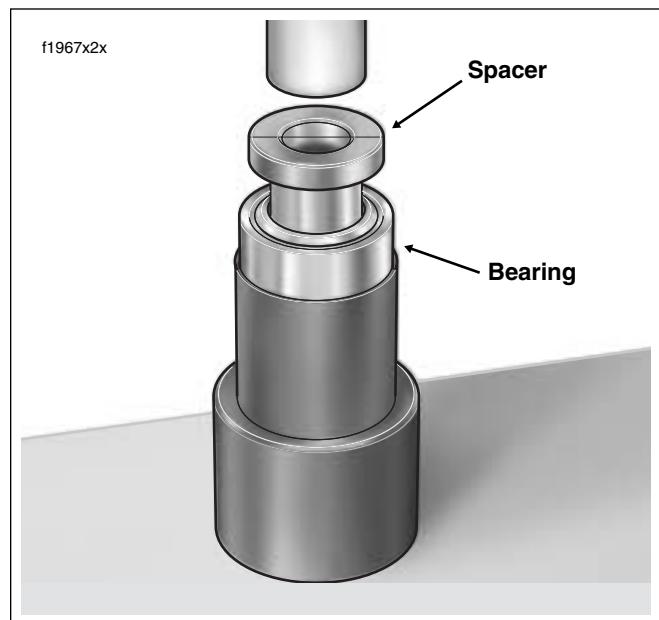

Figure 2-98. Press Spacer Into Bearing
- c. Place bearing over nose of driver. With the collar topside, place spacer over nose and into bearing. See Figure 2-98.